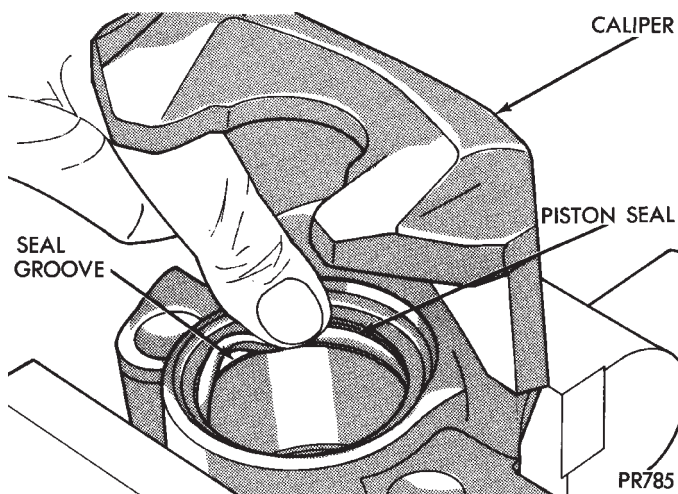

Fig. 174 Installing New Piston Seal In Caliper
(1) Clamp caliper in a vise (with protective caps installed on jaws of vise).
(2) Dip new piston seal in clean brake fluid and install in the groove of the caliper bore. Seal should be positioned at one area in groove and gently worked around the groove (Fig. 174), using only your fingers until properly seated. **NEVER USE AN OLD PISTON SEAL.** Be sure that fingers are clean and seal is not twisted or rolled (Fig. 174).